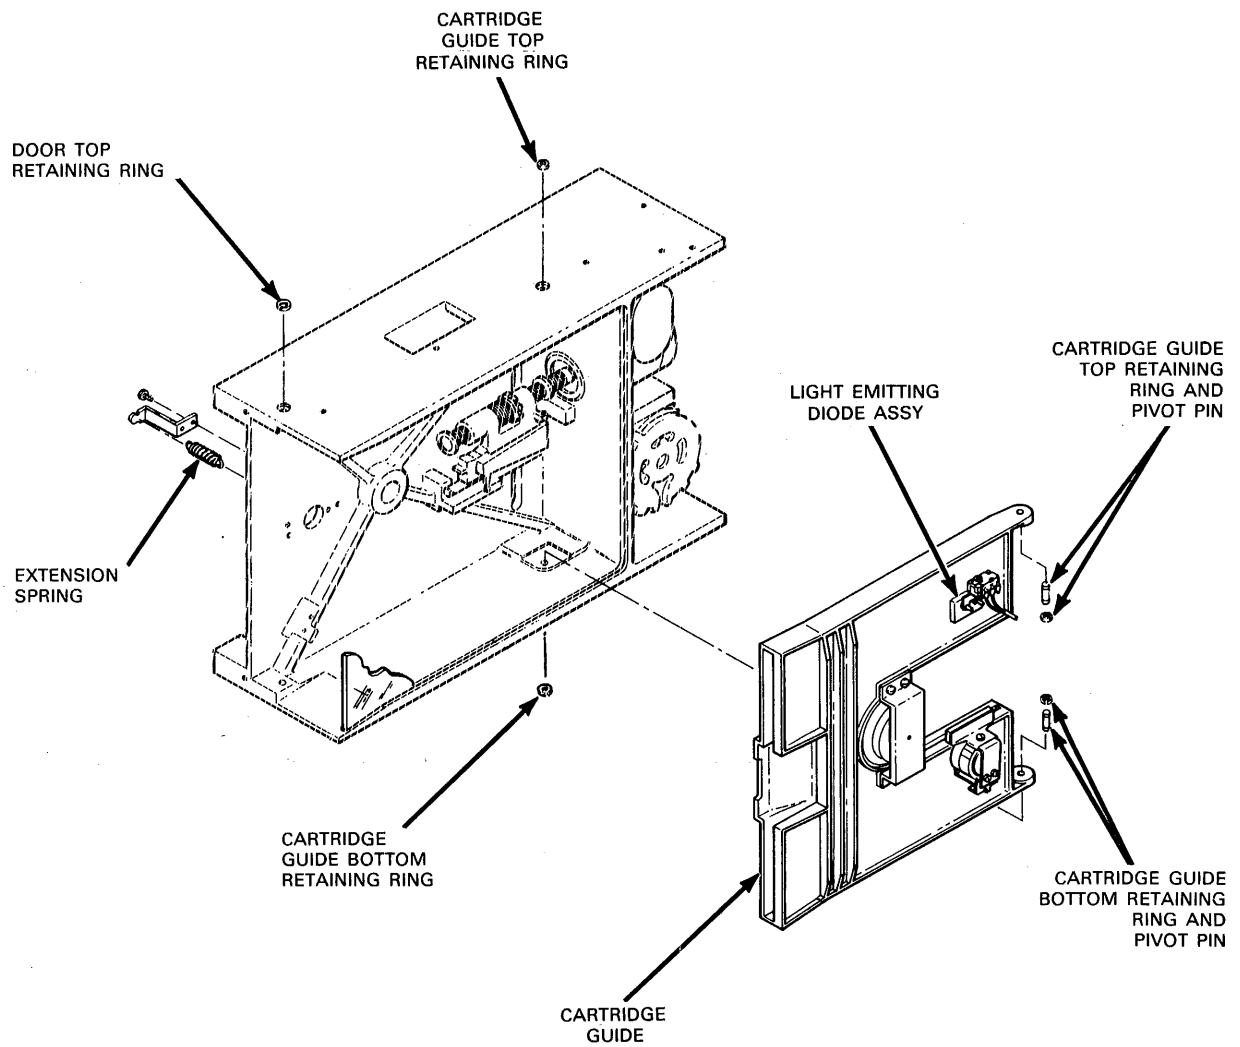

Figure 5-12. Cartridge Guide Assembly Removal and Replacement
1. Remove Light Emitting Diode Assembly (Figure 5-12).
1. Place cartridge guide in position (Figure 5-12).